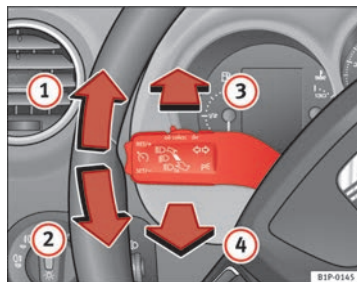

Fig. 76 Turn signal and main beam headlight lever
- Move the lever all the way up ⇒ fig. 76 ① to indicate **right**, and all the way down ② to indicate **left**.
- If the dipped lights are on, push the lever forward ⇒ fig. 76 ③ to switch on the main beam.
- Push the lever towards the steering wheel ⇒ fig. 76 ④ to switch off the main beam.